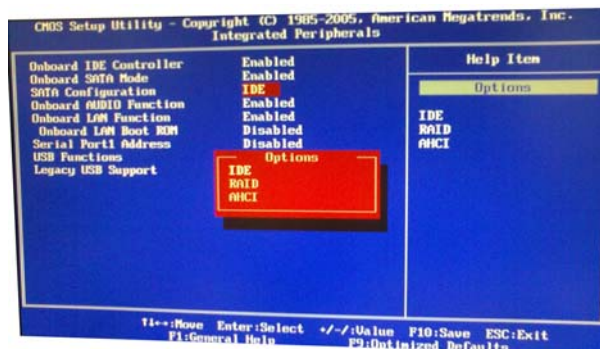

Figure 1.2 Integrated Peripherals Screen
- 3 Use the arrow keys to select the SATA Configuration (see Figure 1.2) and globally set SATA Configuration to RAID.